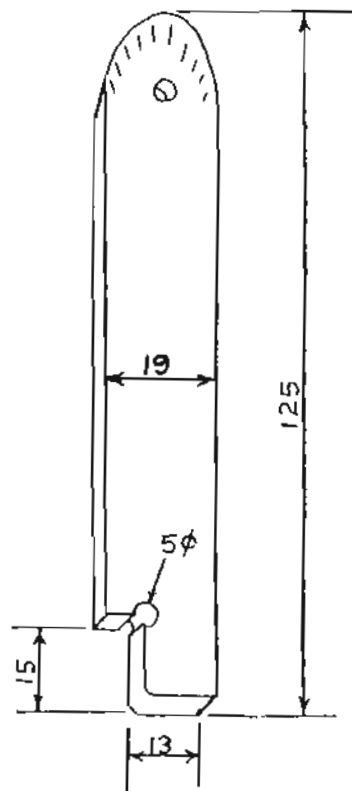

FIG. 42. Tool for disc brakes.
Using the tapered end of tool (Fig.42), or place Mole grips across backing plate and caliper and squeeze, lever old pad away from disc carefully until there is sufficient room to fit a new pad. Never touch the caliper piston with a metal tool.
Using a screwdriver or tool (Fig.42), lever the end of the pad securing spring (5) forwards and upwards to disengage from notch in pad backing plate. Allow old pad to drop out.